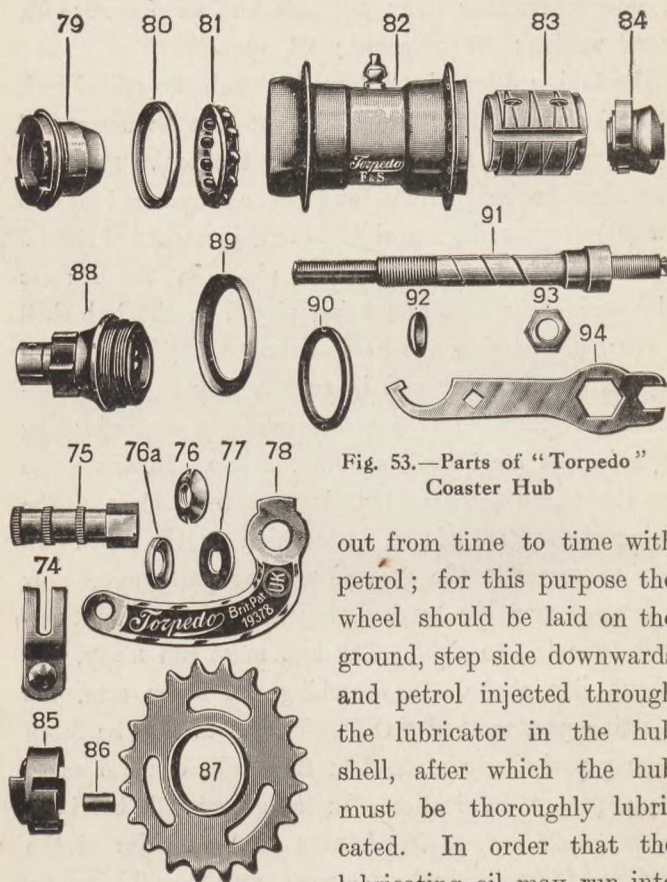

Fig. 53.—Parts of "Torpedo" Coaster Hub
When the pedals are at rest the hub revolves on two rows of ball bearings. The clutch itself is of the roller pattern, there being five rollers. The component parts (see Fig. 53) are as follow: 74, brake-arm clip complete; 75, step; 76, locking washer (milled); 77, curved washer; 78, brake arm; 79, brake cone and stop for brake cylinder; 80, dust cap; 81, ball ring and balls (2); 82, hub shell and lubricator; 83, brake cylinder